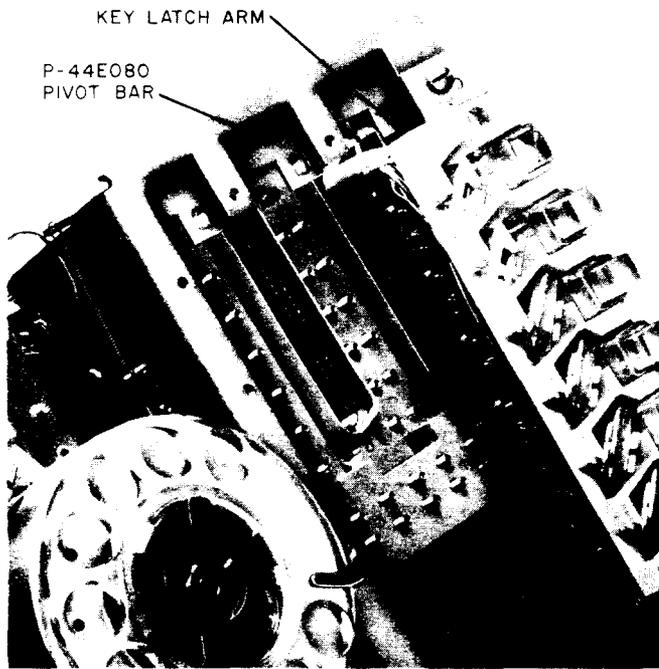

Fig. 8—Pivot Bar, Top View (Current Production)
- (1) Check that key latch arm is properly inserted in the pivot bar (Fig. 8).
- (2) Adjustment of the key can be made by loosening the mounting screws and shifting